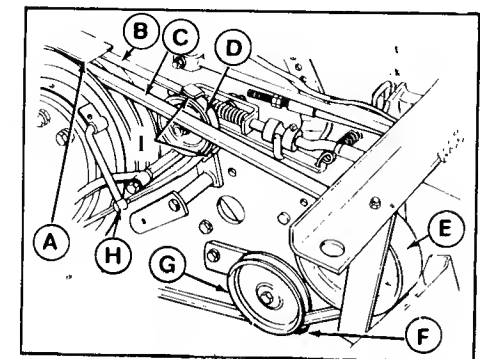

Figure 16. Drive Belt Replacement - Semi-Automatic
2. Remove the two tapite screws to remove the transmission pulley belt retainer (A, figure 16).